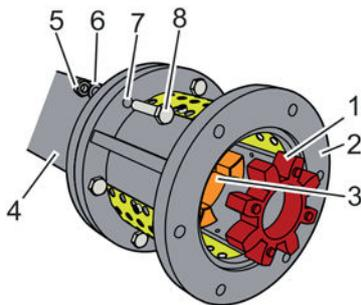

Fig. 86: Disassembling the drive lantern
- 8. ➤ Remove the elastomeric coupling element (Fig. 86/1) from the coupling half (Fig. 86/3) and place to the side.
- 9. ➤ Secure the drive lantern (Fig. 86/2) with suitable lifting equipment so that it cannot fall.
- 10. ➤ Release the attachment bolts (Fig. 86/8) of the drive lantern (Fig. 86/2).
- 11. ➤ Place the nuts (Fig. 86/5), retaining rings (Fig. 86/6) and attachment bolts (Fig. 86/8) to the side.
- 12. ➤ Carefully disconnect the drive lantern (Fig. 86/2) over the coupling half (Fig. 86/3) from the extension pipe (Fig. 86/4) and place to the side, secured against rolling away.